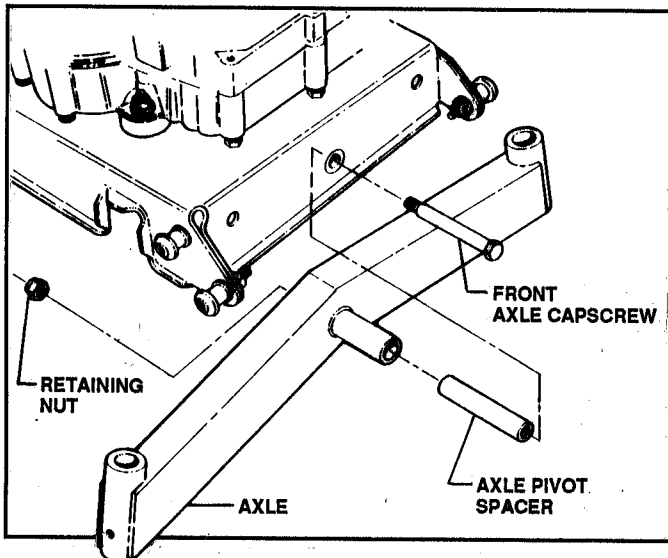

FIGURE 5.12
- B. Remove axle cap screw and spacer and remove axle. See Figure 5.12.